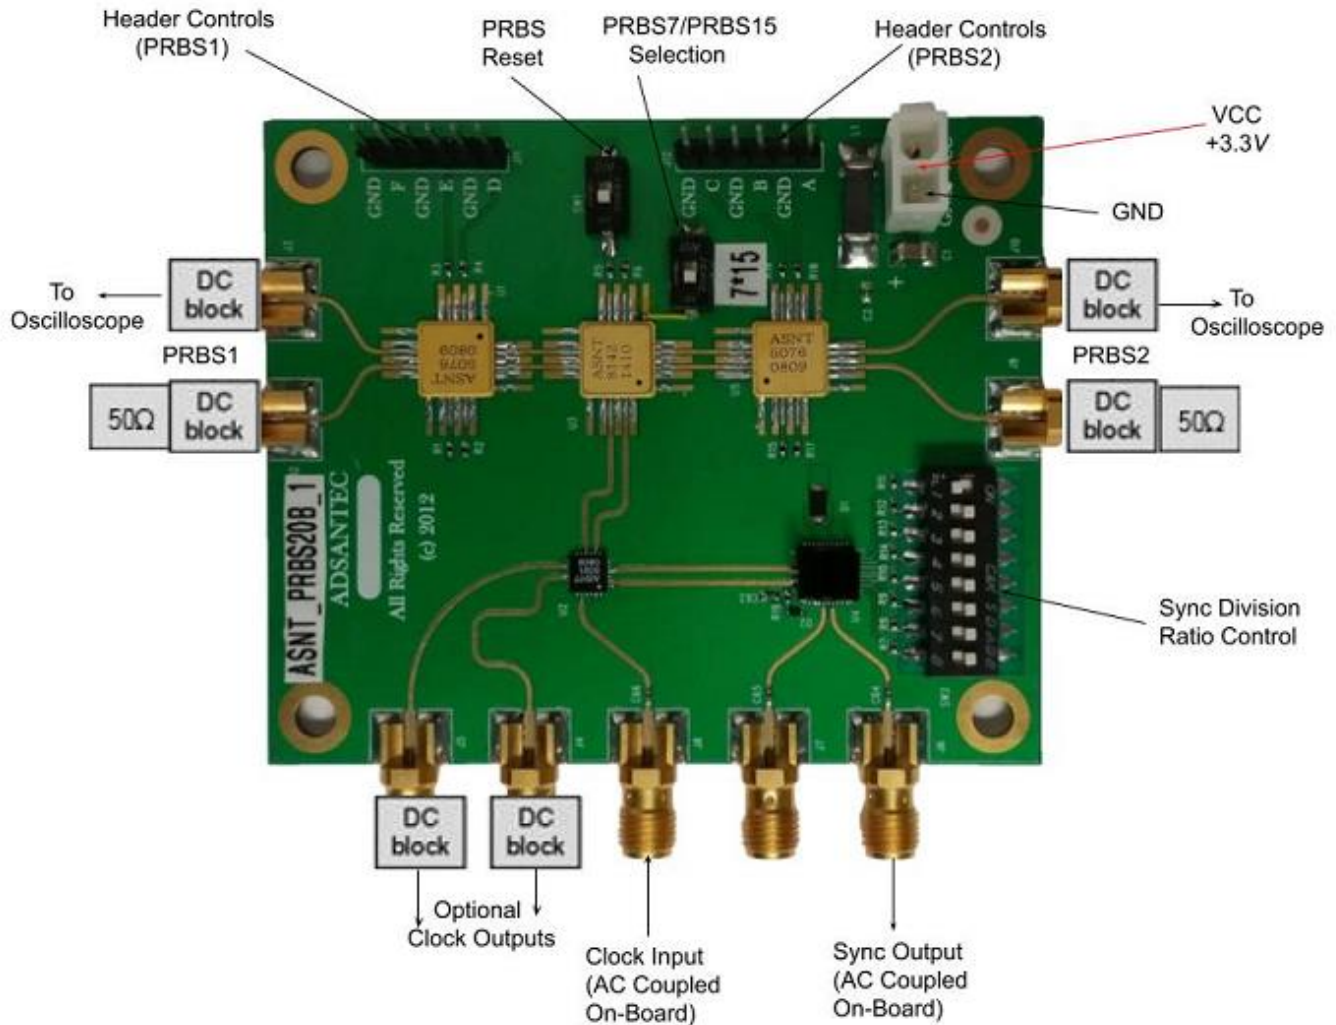

Fig. 6. Recommended Board Configuration Diagram
13. **Fig. 6** on the following page provides an example of how this board can be connected.